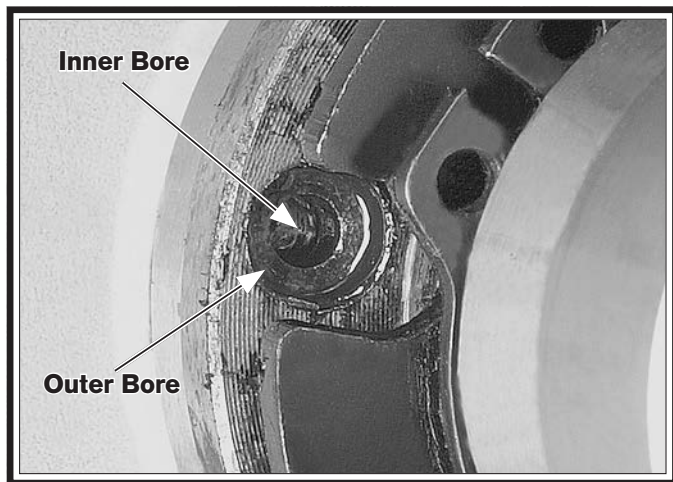

Figure 131. Shear pin bores aligned.
6. Use the magnet to remove the shear pin head, then rotate the lathe spindle to line up the inner and outer bores, as shown in **Figure 131**. Next, use the magnet to remove the other half of the broken shear pin when it becomes visible.